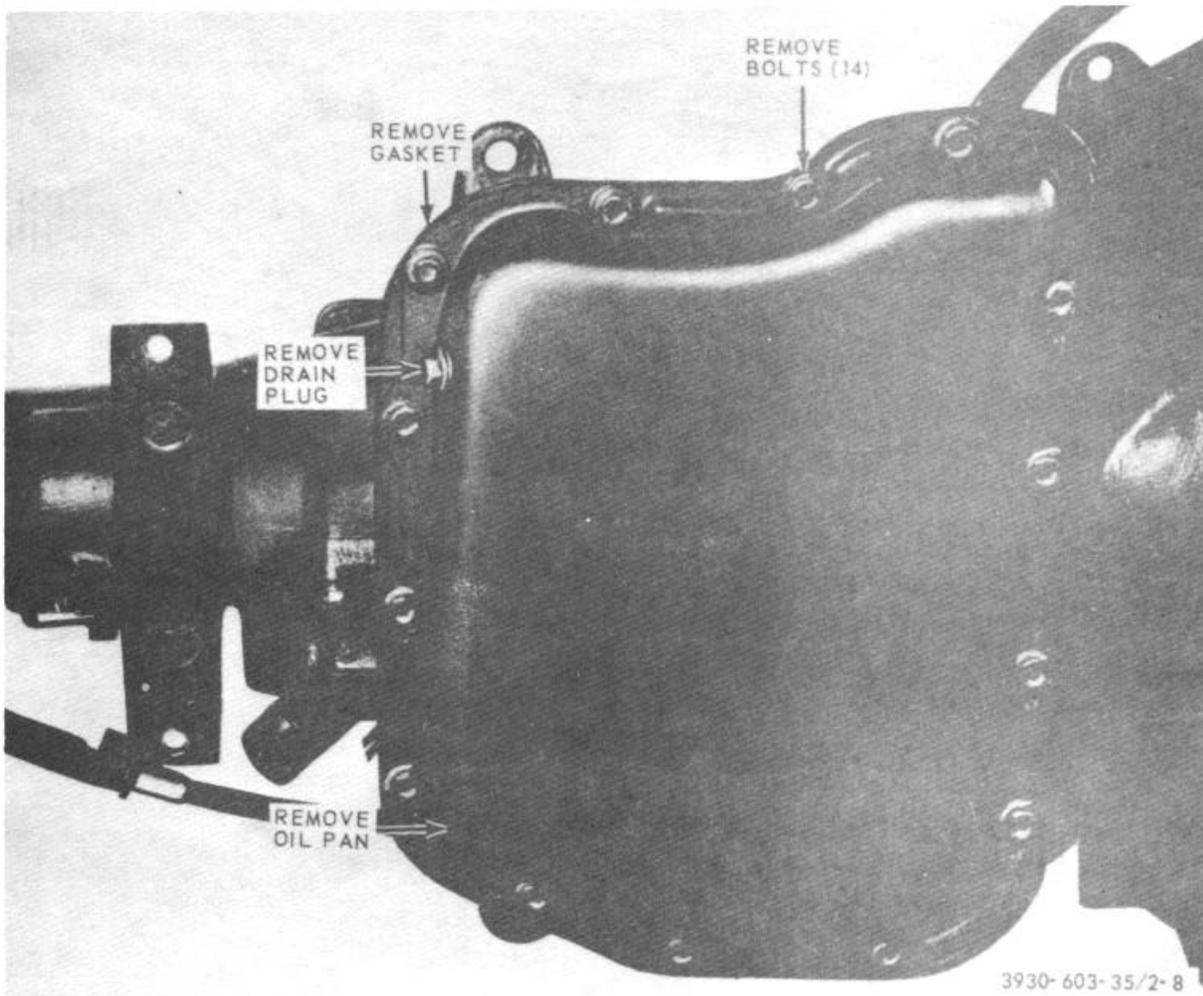

Figure 2-8. Transmission oil pan, removal and installation.
- (1) Raise tractor and drain transmission fluid (LO 10-3930-603-12).
- (2) Remove transmission oil pan (fig. 2-8).
- (4) Using adjusting wrench with adapter, tighten band adjusting screw to 4750 inch-pounds torque. If adapter is not used, tighten adjusting screw to 72 inch-pounds torque, which is true torque.
- (5) Back off adjusting screw three turns, hold adjusting screw in this position and tighten lock nut to 35 foot-pounds torque.
- (6) Use a new gasket and install transmission oil pan as illustrated in figure 2-8. Torque oil pan bolts to 150 inch-pounds.
- (7) Fill transmission with fluid (LO 10-3930-603-12).
- (13) Install oil pan assembly as illustrated in figure 2-8.